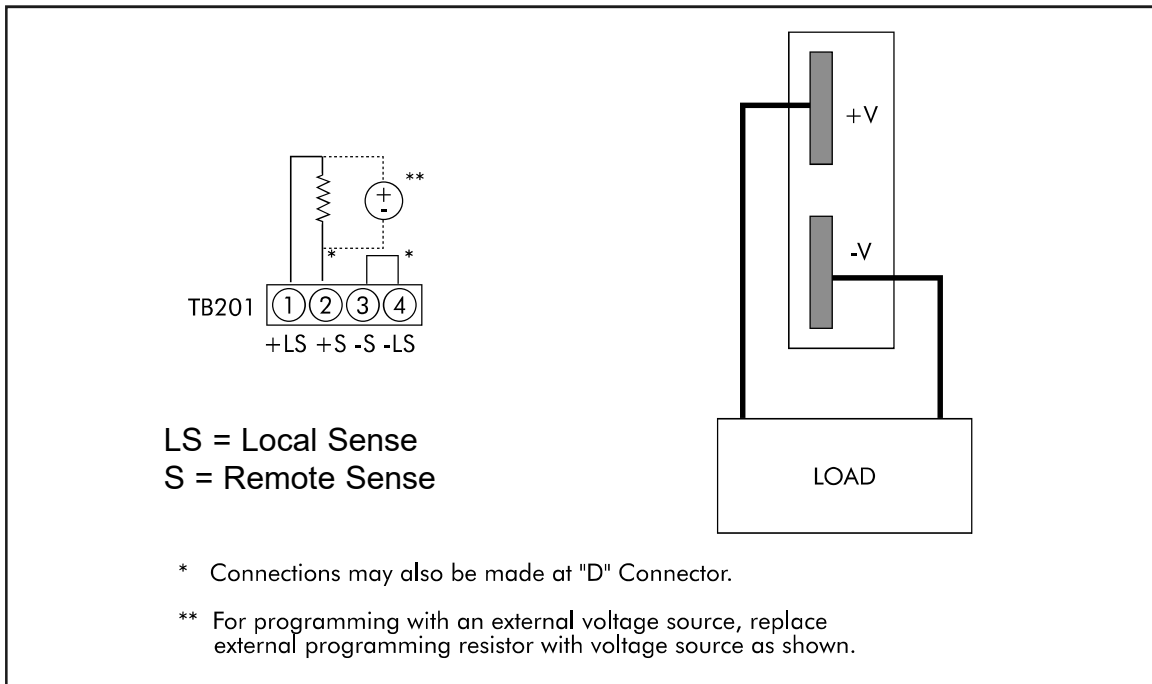

Figure 4 - Remote Voltage Control with an External Programming Resistor or Voltage Source (Local Sensing)
Remote Voltage Programming external resistor.	1000 ohms per volt for resistor connected between pins 1 and 2 on TB201 (see Figs. 4 and 5).
Remote Voltage Programming external voltage source.	Volt per volt for voltage source connected between pins 1 and 2 on TB201 (see Figs. 4 and 5).
2. With the power supply unloaded, set  $V_{out}$  to the OVP threshold desired. In cases where the desired OVP threshold exceeds the unit's adjustment range maximum of 56.0V, a programming resistor (see figures 4 & 5) will temporarily be needed to provide the higher output voltage to perform the adjustment. Once adjusted, remove the programming resistor. Alternatively, you may use an external voltage source to set the OVP threshold as shown in figures 4 & 5.